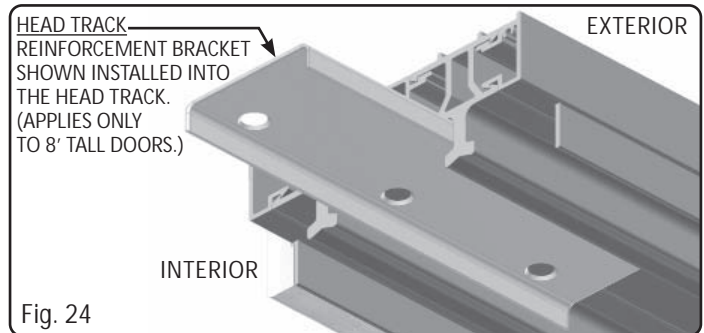

Fig. 24
- Extra shimming is required between the head jamb and the rough opening at each screw location, **(Fig. 24 & 25)**.